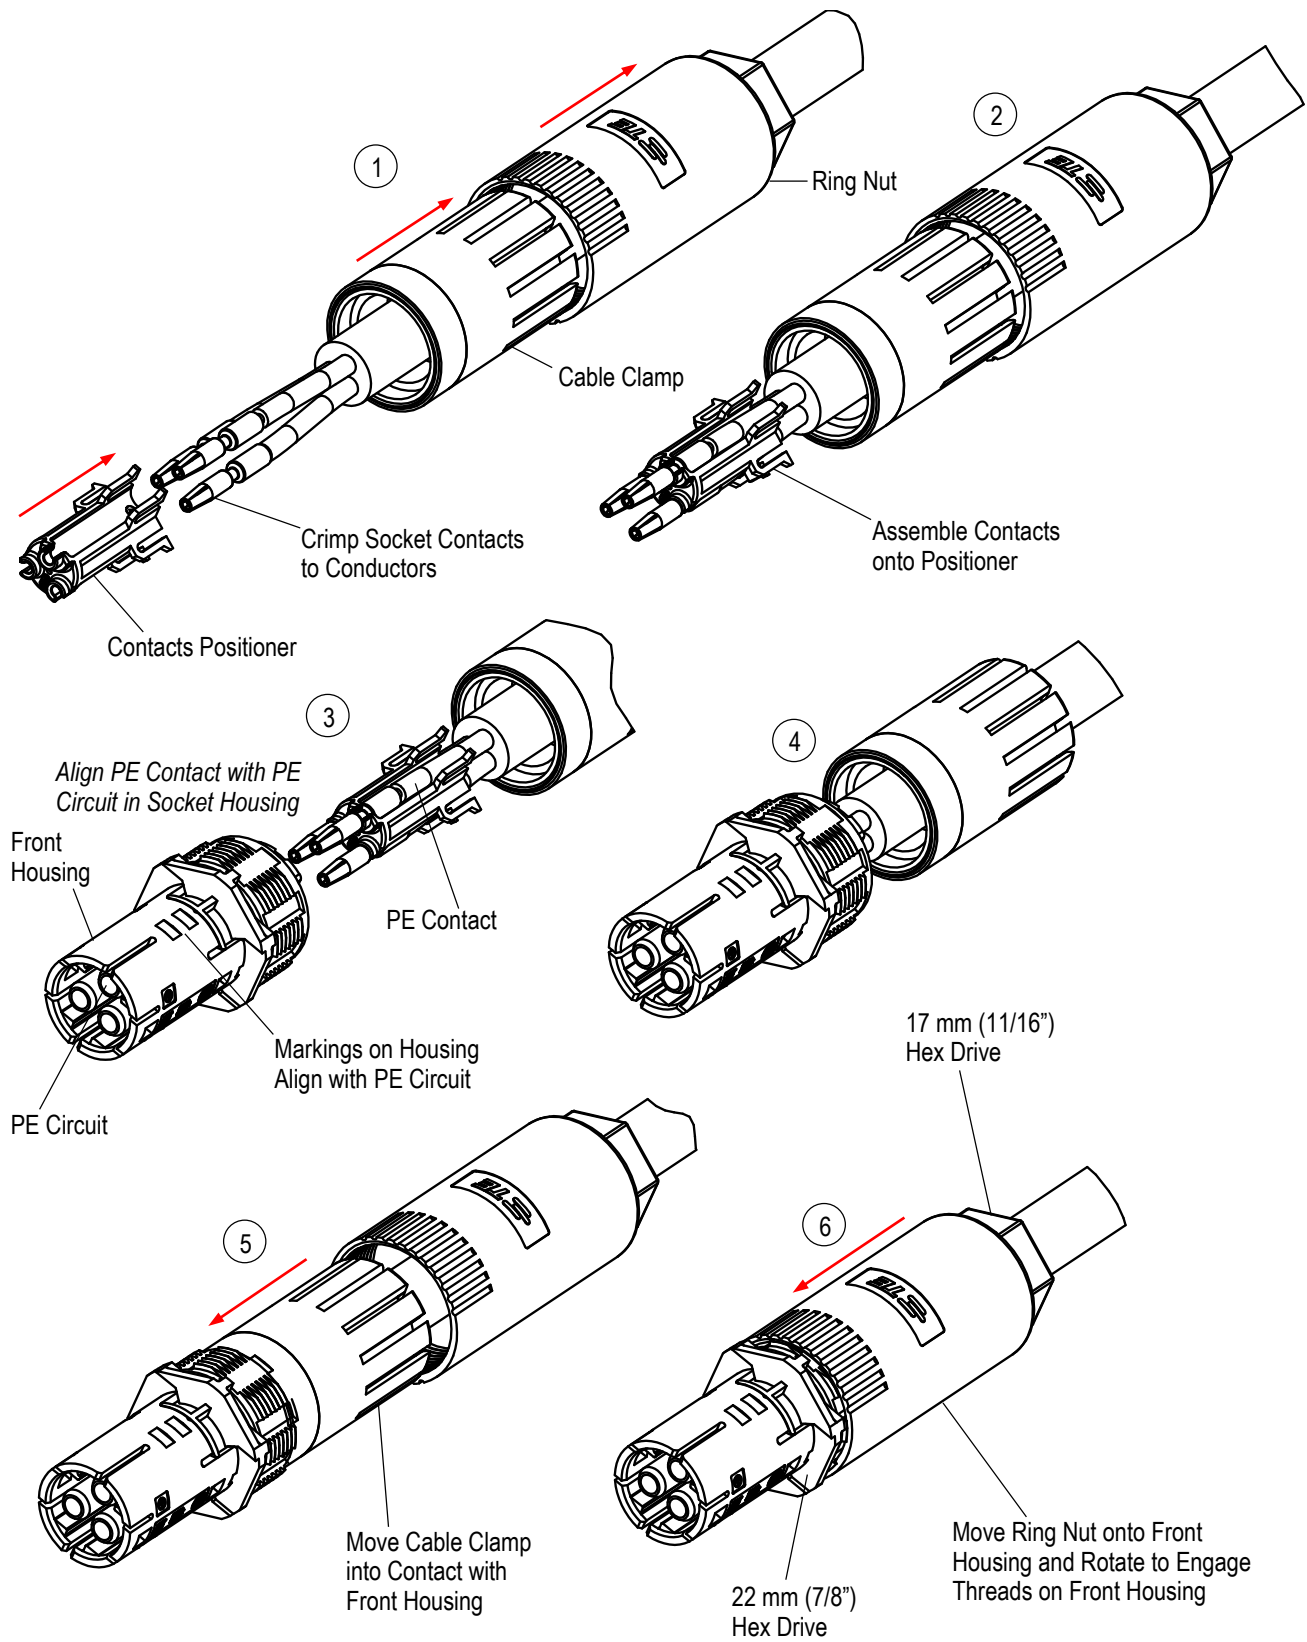

Figure 22
4. Place “ring nut” over cable jacket. (Orient as shown in Figures 22, 23.)
5. Place “cable clamp” over cable jacket. (Orient as shown in Figures 22, 23.)